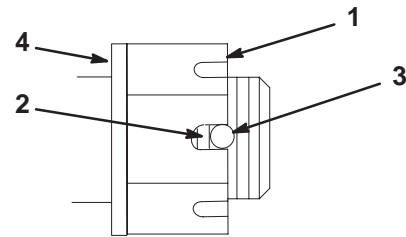

Figure 57
3. Torque the slotted nut to 125 ft.-lb. (170 N·m) (Fig. 57).
4. Check the distance from the bottom of the slot in the nut to the inside edge of the hole. Two threads or less should be showing (Fig. 57).
5. If more than two threads are showing, remove the nut and install a washer between the hub and nut (Fig. 57).
6. Torque the slotted nut to 125 ft.-lb. (170 N·m) (Fig. 57).
7. Tighten the nut until the next set of slots line up with the hole in the shaft (Fig. 57).